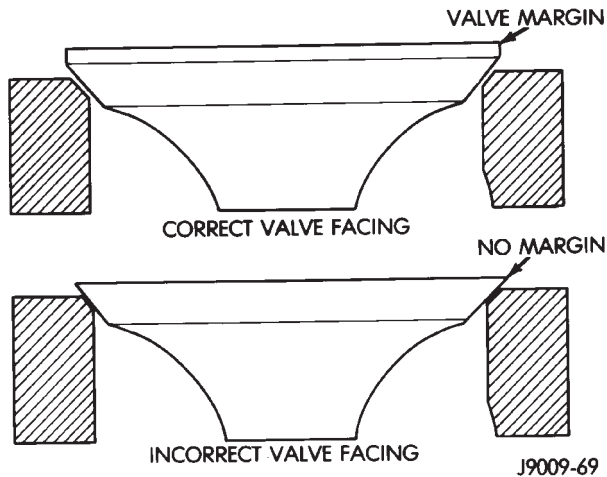

Fig. 64 Valve Facing Margin
- (1) Use a valve refacing machine to reface the intake and exhaust valves to the specified angle.
- (2) After refacing, a margin of at least 0.787 mm (0.031 inch) must remain (Fig. 64). If the margin is less than 0.787 mm (0.031 inch), the valve must be replaced.